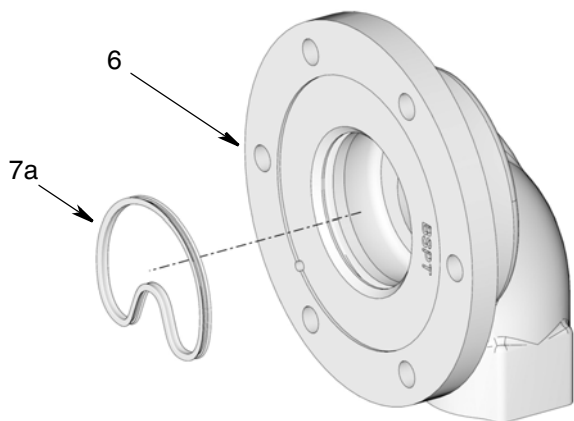

FIG. 5
- d. Install the white seal (7a) over the o-ring (7b) (FIG. 5).